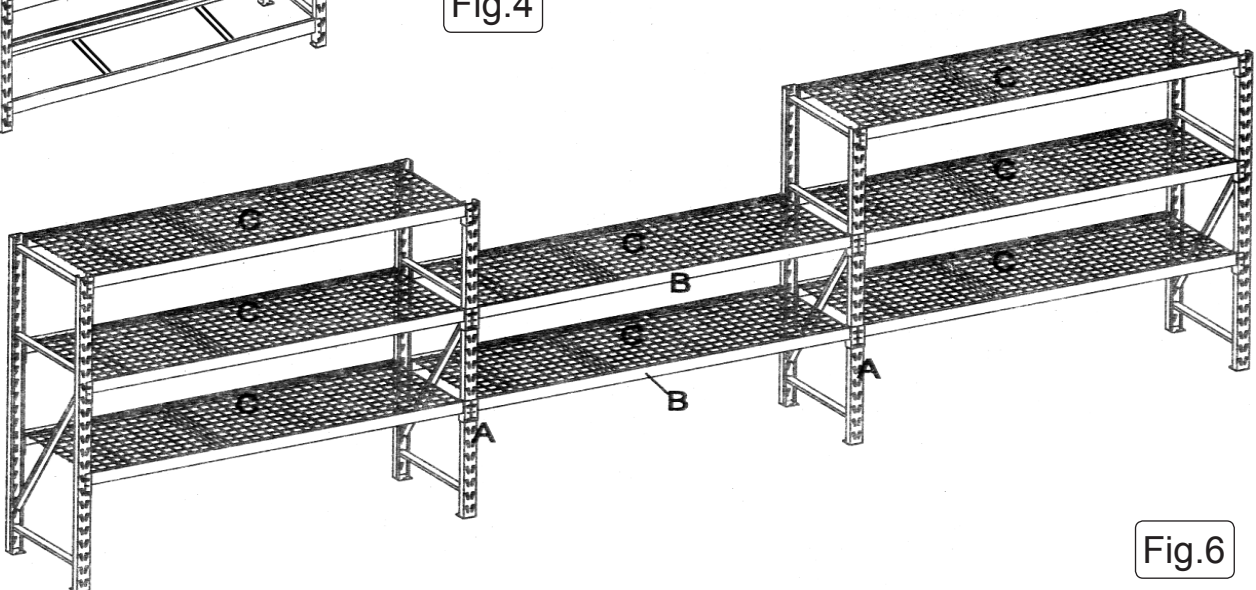

Fig.6
4.7 See Fig.6. Extra components are available to create extra storage bays as required (see Section 3). In the example below a third storage bay is achieved by joining two free standing units.